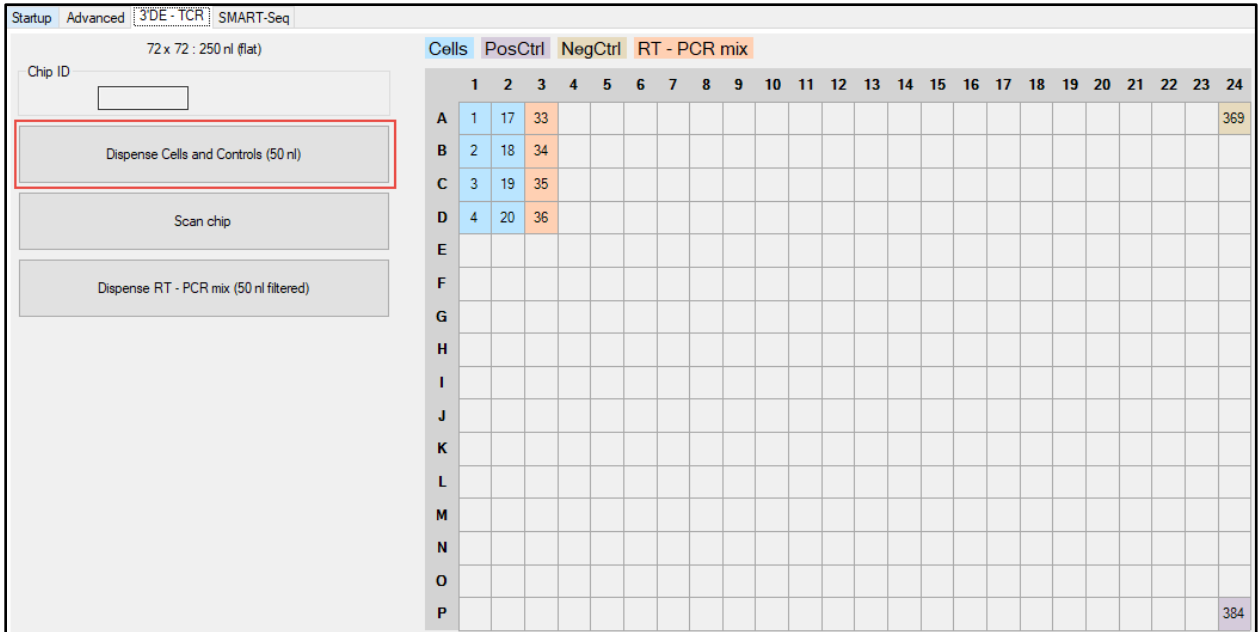

Figure 8. Using CELLSTUDIO Software to dispense cells and controls into the ICELL8 cx 3' DE Chip.
12. In CELLSTUDIO Software, click the [Dispense cells and Controls (50 nl)] button (Figure 8, below).